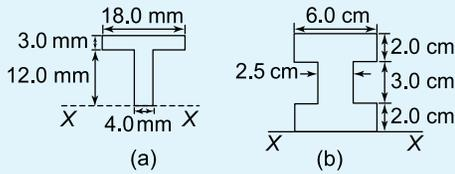

Figure 8.24
- For the sections shown in Figure 8.24, find the second moment of area and the radius of gyration about axis *XX*.